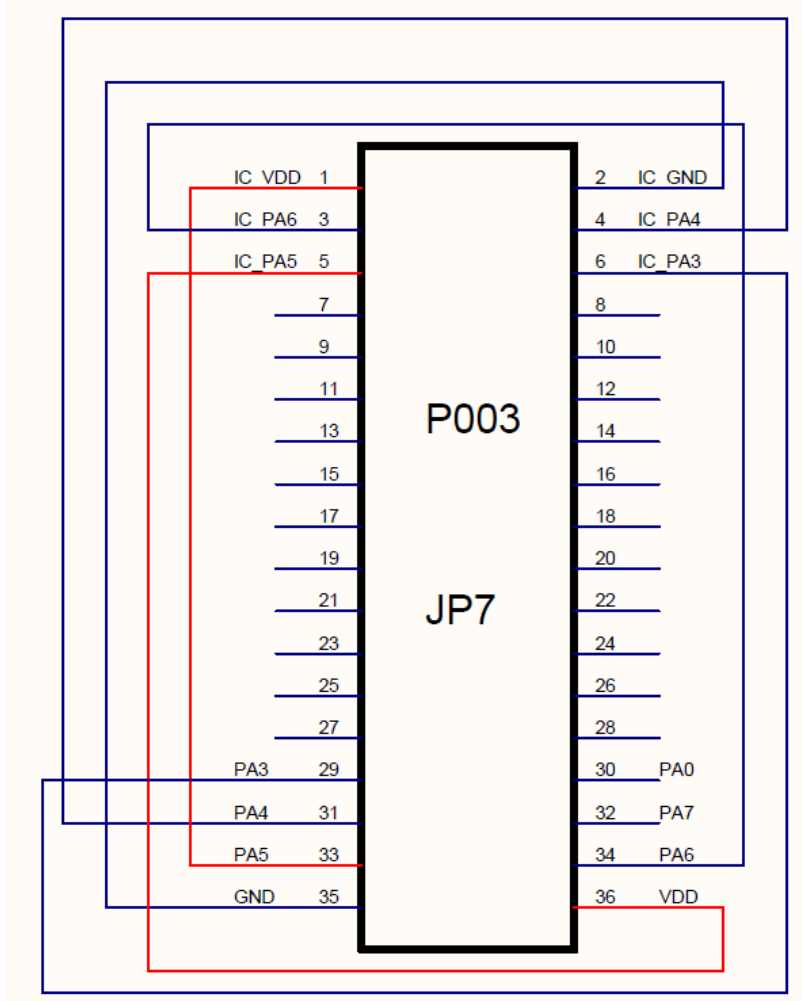

Fig.27: schematic diagram of PMS163-S08 Jumper7 when using p003
2. As shown in figure 27, it is the Jumper7 connection method.